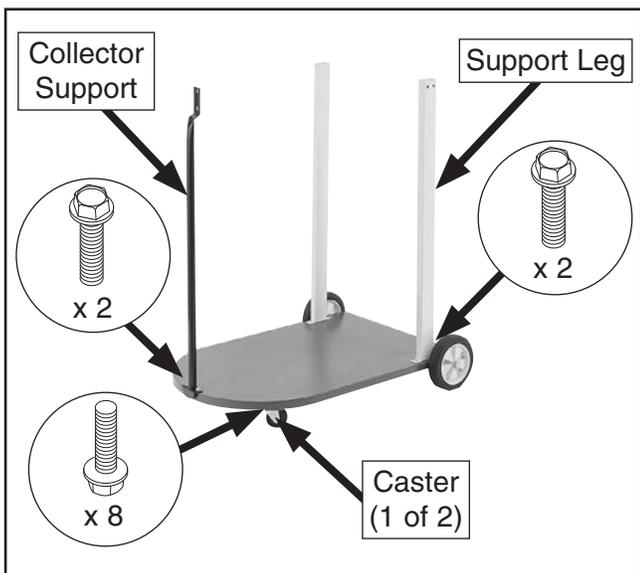

Figure 9. Base assembled with casters, wheels, collector support, and support legs.
2. Attach (2) 2 $\frac{1}{2}$ " casters to bottom of base using (8) $\frac{5}{16}$ "-18 x $\frac{1}{2}$ " flange bolts (see **Figure 9**).
3. Attach collector support to base using (2) $\frac{5}{16}$ "-18 x $\frac{1}{2}$ " flange bolts (see **Figure 9**).
4. Attach support legs to base using (4) $\frac{5}{16}$ "-18 x $\frac{1}{2}$ " flange bolts (see **Figure 9**).